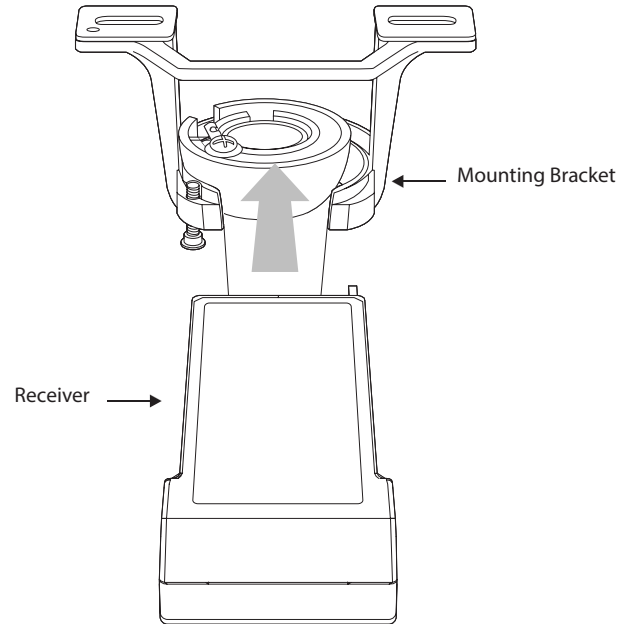

FIG. 10
1. Insert the receiver into the mounting bracket with the flat side of the receiver facing the ceiling (**FIG.10**).